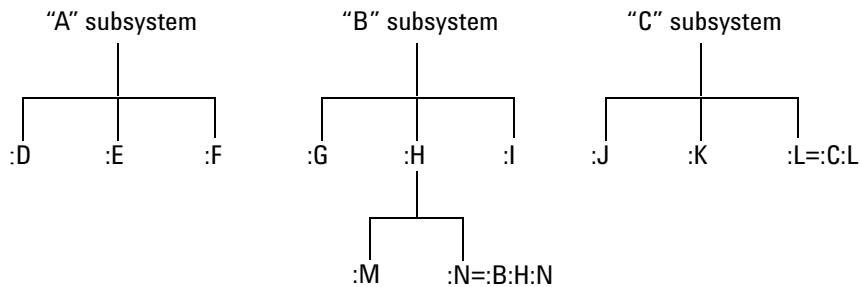

Figure 1-1 Hierarchical structure of SCPI
- Figure 1-1** Hierarchical structure of SCPI **3**